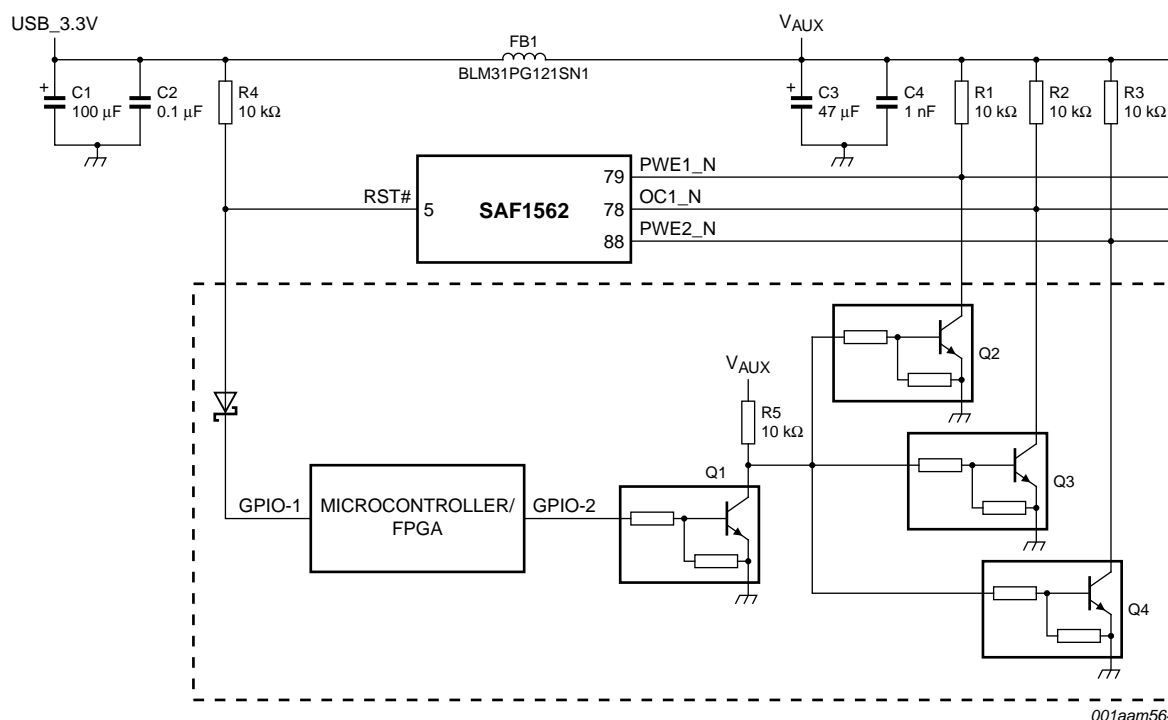

Fig 17. Workaround when all ports are needed in an implementation
- If port 1 and port 2 are needed then Figure 17 is one application example. To achieve the timing requirement as shown in Figure 16 use General Purpose Input Output (GPIO) ports from the microcontroller to control the key signals assertion. The OC1\_N, PWE1\_N and PWE2\_N signals must be asserted before the PCI reset assertion and must be deasserted after the PCI reset deassertion. The recommended safety margin for the timing assertion and deassertion between the key signals and PCI reset is approximately 4 ms.